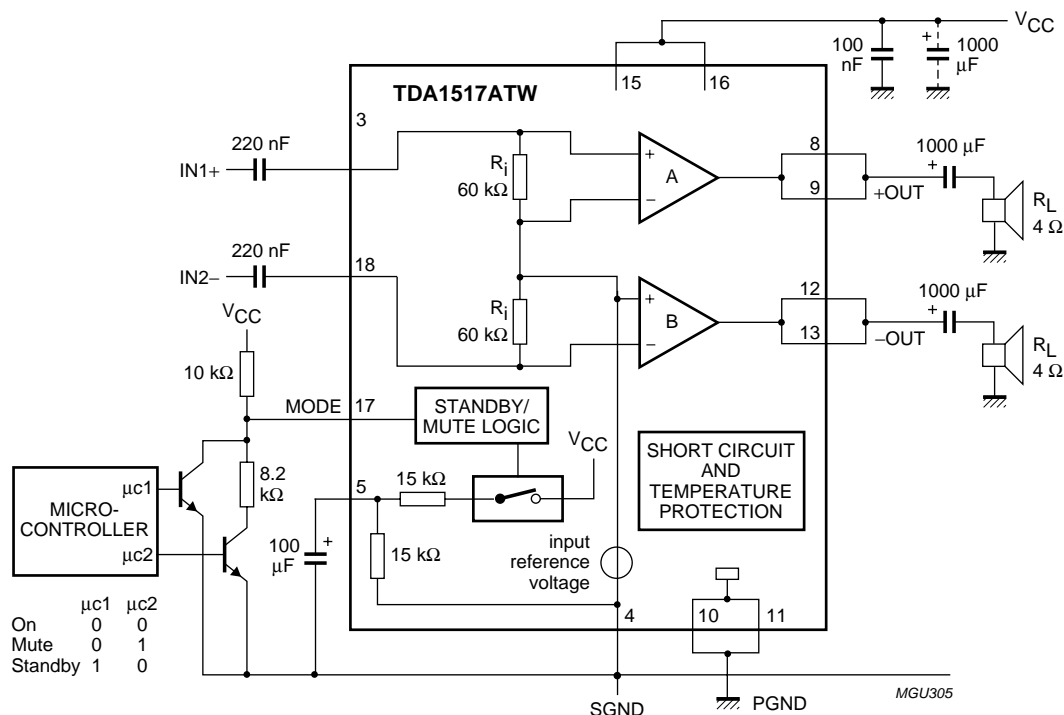

Fig.4 SE application block diagram.
1. $R_L = 4 \Omega$, measured in Fig.4.